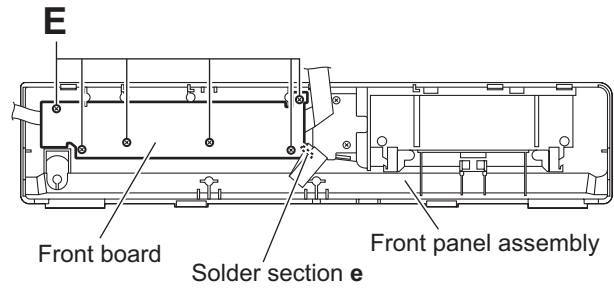

Fig.4
- (2) From the inside of the front panel assembly, remove the six screws **E** attaching the front board. (See Fig. 4.)
- (3) Take out the front board and remove the solder from the soldered point **e** to remove the parallel wire. (See Fig. 4.)